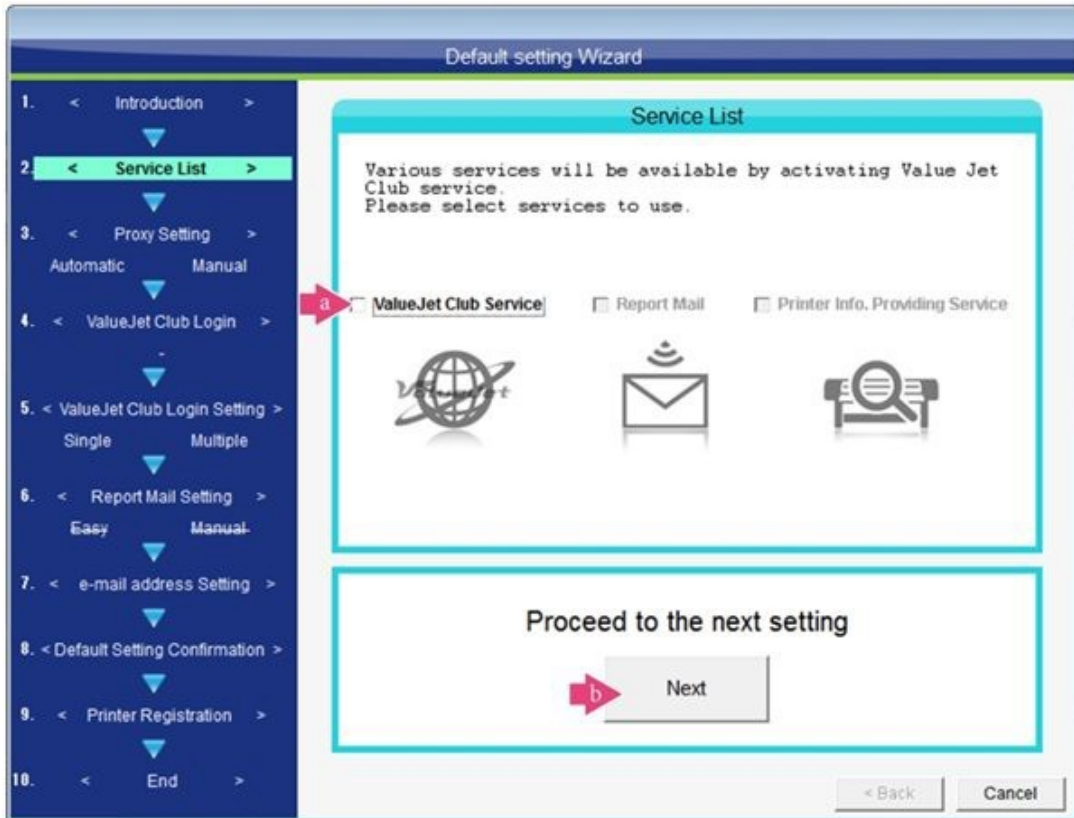

Figure 48
35. Uncheck **ValueJet Club Service** (a). Select **Next** (b) to continue. See Figure 48.